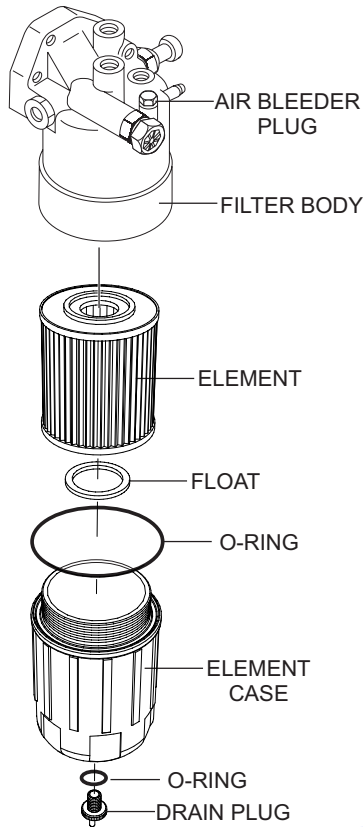

**Figure 50. Draining The Fuel Filter**
1. Loosen the **air bleeder plug** (Figure 50) on the fuel filter body.